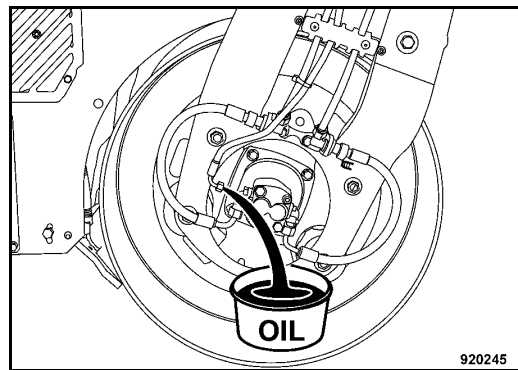

Fig. 168
- Disconnect the leak oil hose from the front right hand vibration motor (Fig. 168), drain off and catch all hydraulic oil.